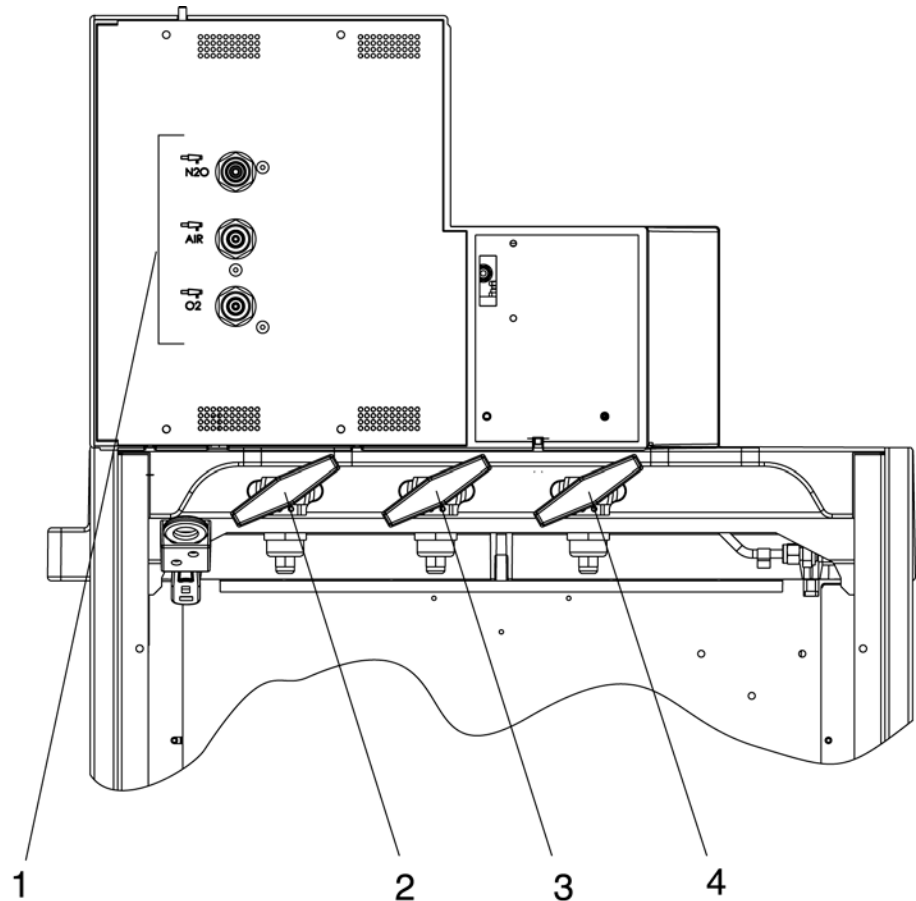

**Figure 2** Rear view showing interface panel and power entry, for legend see Table 2
Monitoring, electrical connections and gas connections as shown in Figure 1, Figure 2, Figure 3, and Figure 4.
**Table 2** Legend to Figure 2